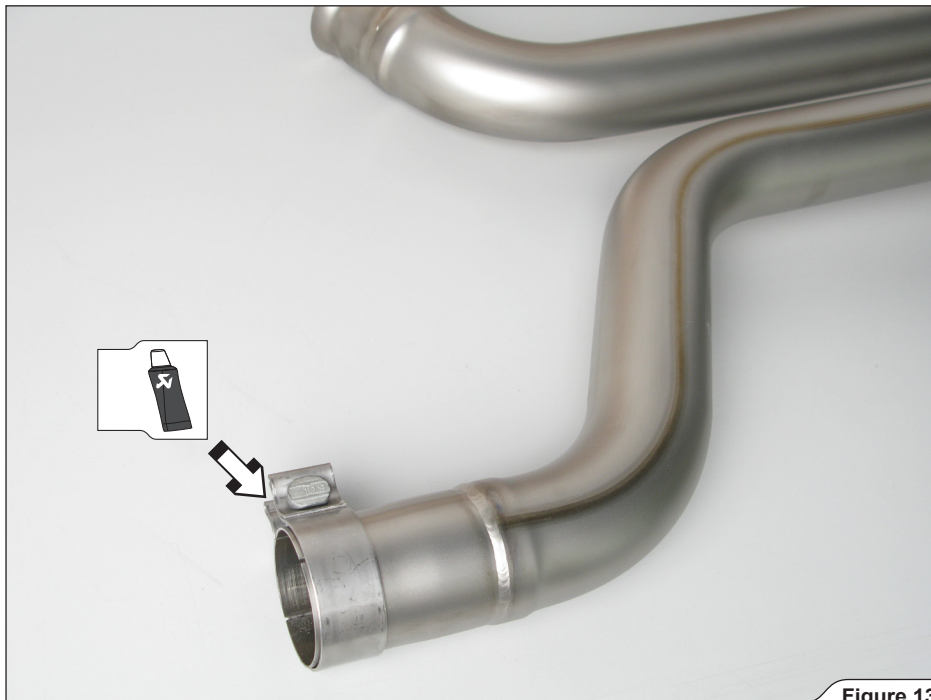

Figure 13
1. **For Evolution only:** attach the metal clamp to Akrapović middle pipes as shown (**Figure 13**).